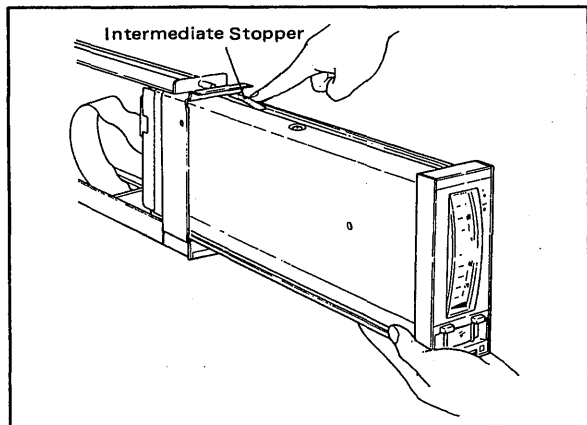

Figure 5-8. Withdrawing the Internal Unit.
- (2) The indicator body locks as it is pulled partially out from the housing. To pull the internal unit out further, press down the intermediate stopper located on the top of the internal unit, and pull the unit out from the housing (See Figure 5-8).